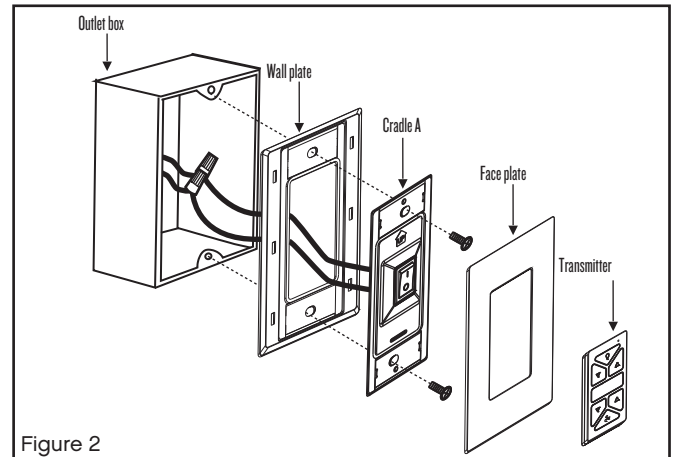

Figure 2
- 3 Loosen the security set screw and remove the downrod pin and cotter pin from the coupler on top of the motor assembly. (Fig. 2)
- 2 Make wire connections from the fan to the receiver unit. For this step use the bundle of 3 wires on the receiver. (Fig. 2)
- 2 Seat the cradle A into the wall plate. (Fig. 2)
-  Signal light (Fig. 2)